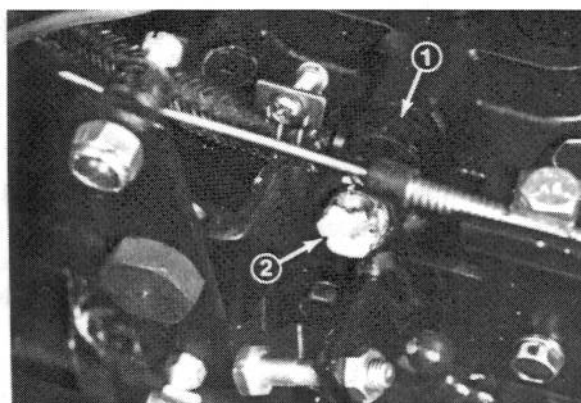

Figure 13
4. Open the air bleed screw on the fuel-injection pump (Fig. 13) with a 12 mm wrench.